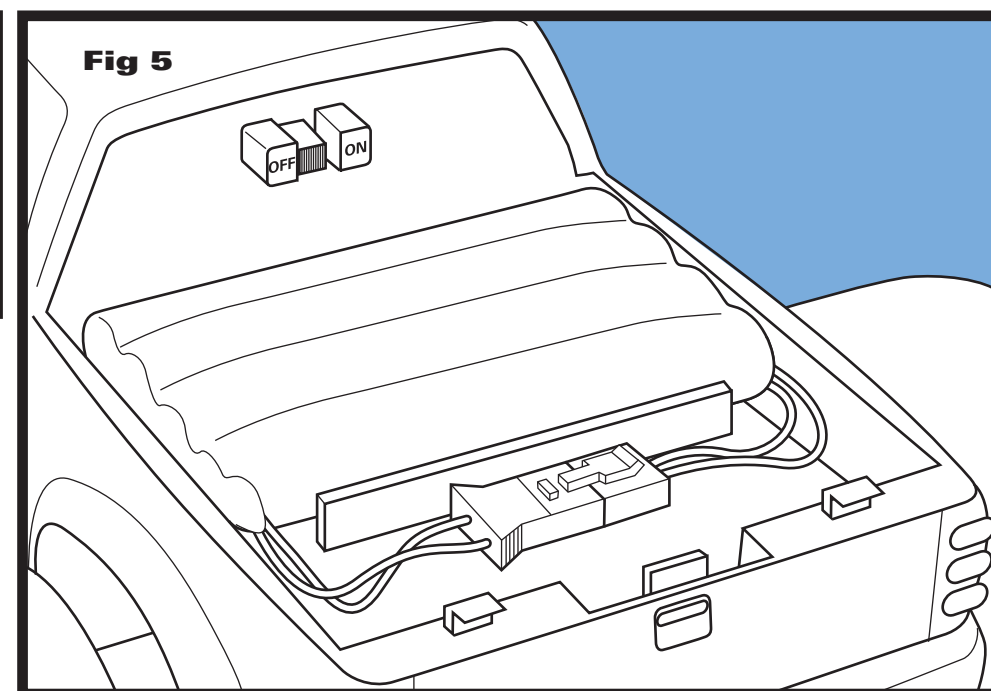

Fig 5
3. Place fully and freshly charged BATTERY PACK into BATTERY COMPARTMENT and place PLUG/JACK/WIRE as shown so they're out of the way when you replace the LID. (Fig. 5)